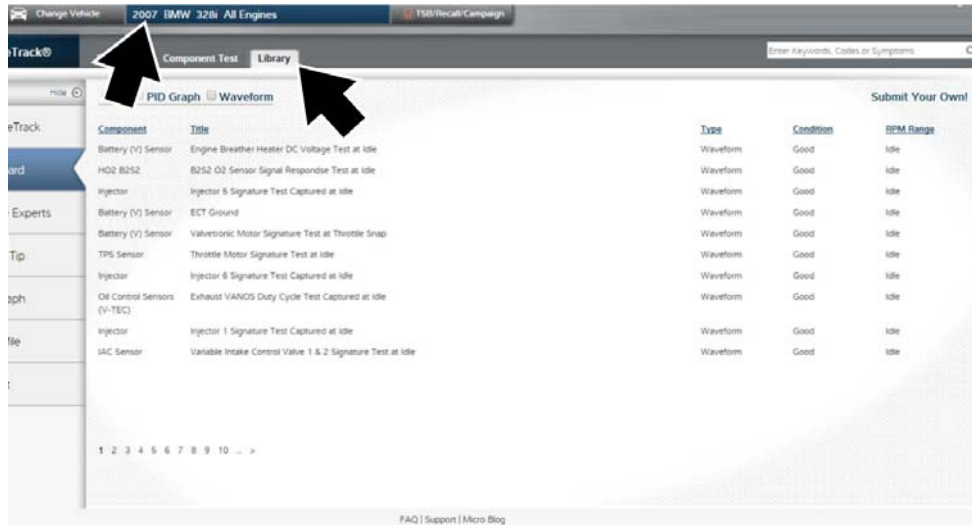

Figure 9-44 SureTrack - Library tab showing list of waveform examples
3. Enter (identify) the test vehicle details in the search field at the top of the screen (Figure 9-44).
4. Select the Dashboard tab (left side) (Figure 9-44).
If waveform and/or PID graph examples are available, the Library tab will be displayed at the top (Figure 9-44).
5. Select the **Library** tab (Figure 9-44). A list of examples is displayed and sortable by selecting the PID Graph and/or Waveform check boxes at the top.